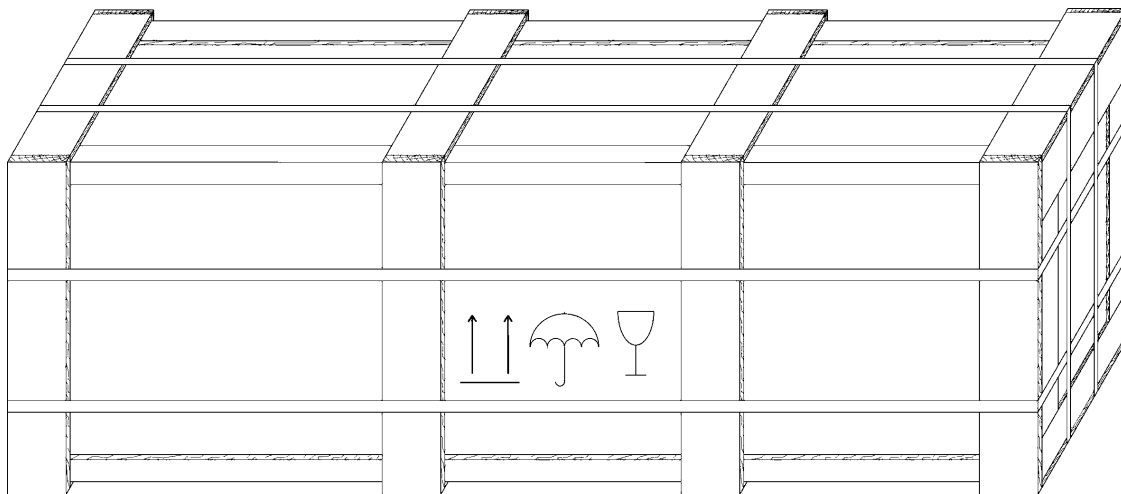

Figure 5. View of crate package
5. Connect wires outgoing from the top part of the lower board into the proper terminals in the upper board (figure 5).